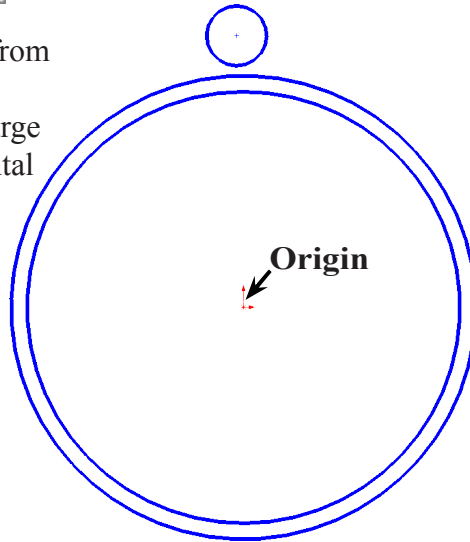
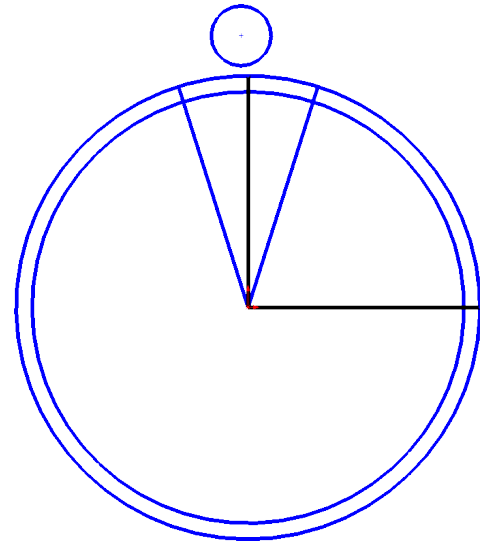

Fig. 2
Fig. 3
Step 2. Click **Circle** (S) on the Sketch toolbar.
Step 3. Sketch **three circles**. Start two at the Origin and sketch a smaller circle above circles, **Fig. 2**.
Step 4. Click **Line** (L) on the Sketch toolbar.
Step 5. Sketch **4 radii** from **Origin** to large circle, a horizontal and vertical and two at angle, **Fig. 3**.